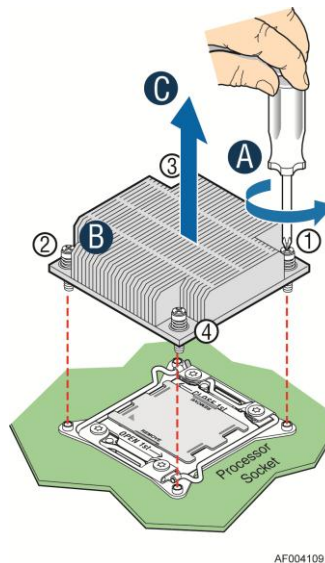

Figure 30. Removing Processor Heatsink
1. Remove the processor heatsink, see Figure 30.